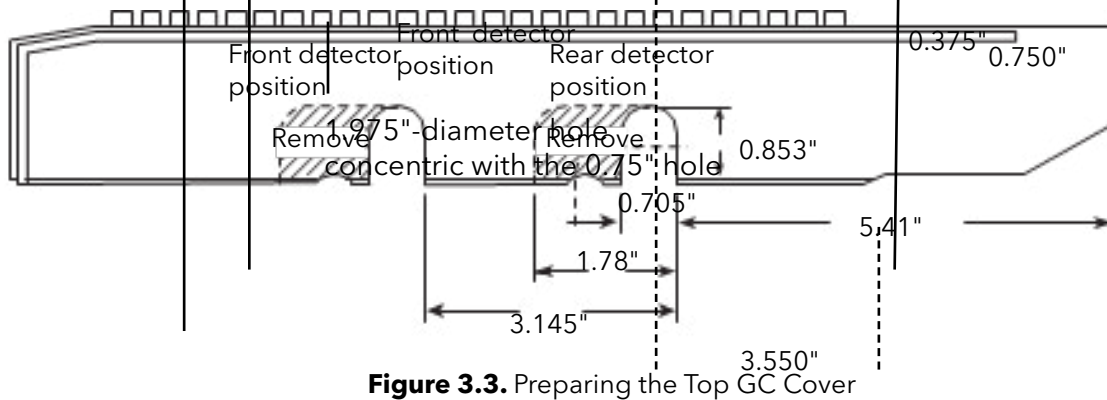

Figure 3.3. Preparing the Top GC Cover
- Cut a hole in the top GC cover (Figure 3.3).